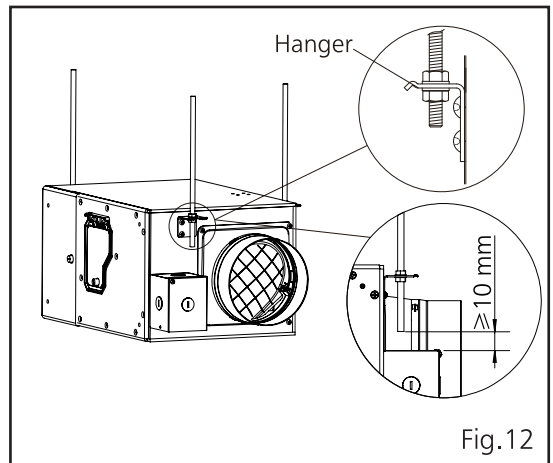

Fig.12
3. Install the product on hanger bolts and fix the nuts tightly. (Fig.12)